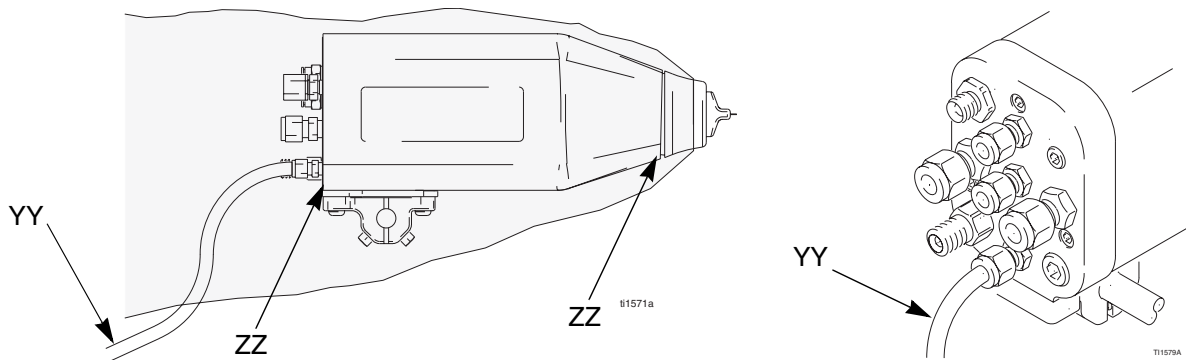

Fig. 14. Check for Fluid Leakage
During operation, periodically check the manifold exhaust tube (YY) and both ends of the gun shroud (ZZ) for the presence of fluid. See FIGURE 14. Fluid in these areas indicates leakage into the shroud, which could be caused by leaks at the fluid tube connections or fluid packing leakage.